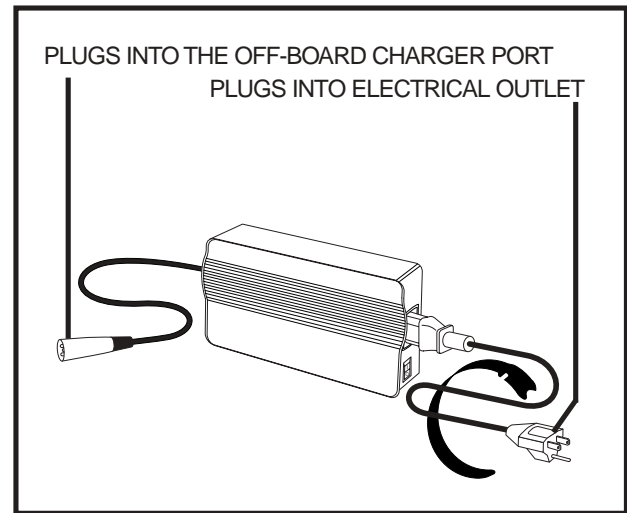

Figure 12A. Off-board Charger
4. Plug the 3-pin charger power lead into the off-board charger port. **See figure 12A.**